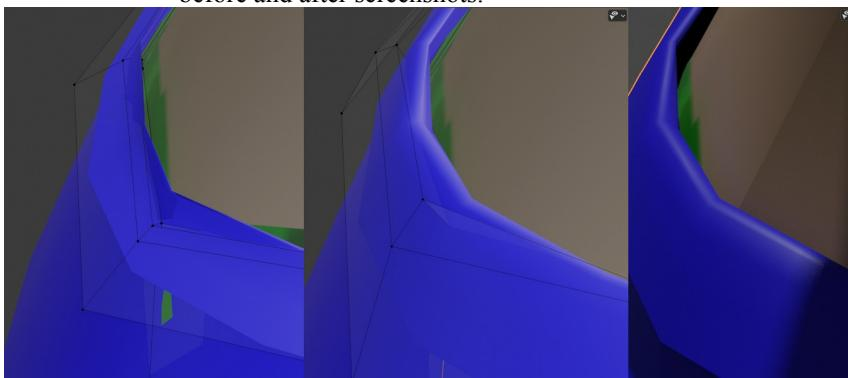

Figure 7-5 Tweaking vertices to fix the bevel for subdividing
16. Bevel the mesh by switching to Edit mode and selecting the vertices along the inside edge of the collar. Then select **Edge ▾ Bevel Edges**, move the mouse to create the bevel then LMB to fix the it. Don't worry about getting the right amount for the bevel as you will now open the Adjust Last Operation pane and alter the Width to **0.01** and Segments to **3**. You will have to adjust these values to suit your model, in my case I found that the shrinkwrap modifier was pushing the the underlying mesh through the layer above. Even then I needed to tweak the vertices in a similar way to moving the control points to define the nurbs surface in Chapter 3. Figure 7-5 shows the before and after screenshots.